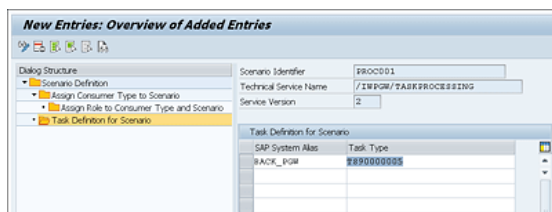

Figure 11.4 Assigning Task IDs to a Scenario ID
9. As shown in Figure 11.4, then choose **Task Definition for Scenario** in the **Dialog Structure**.